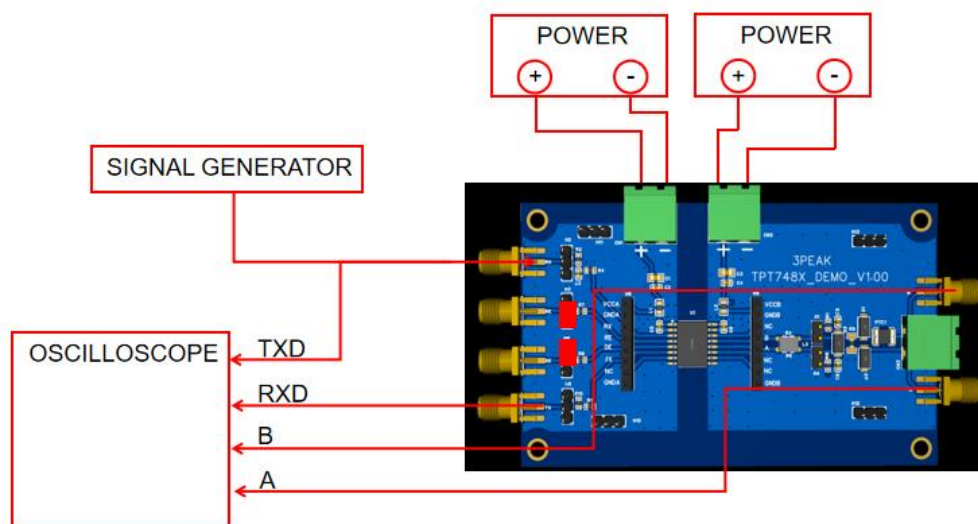

Figure. 3 EVM Test Setup
Referring to Table.3, the recommended connections to evaluate TPT7481-EVM is shown in Fig.3.
- Set up the EVM as described in Fig.3.